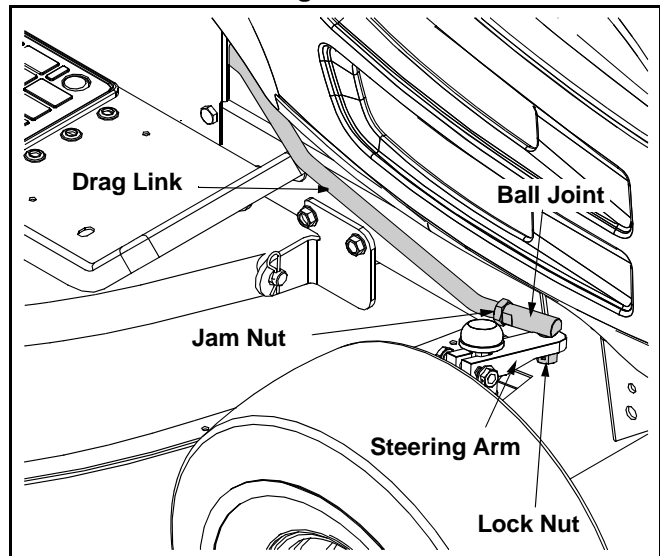

Figure 19
- Remove the lock nut which secures the ball joint to the steering arm. See Figure 19.
- Loosen the jam nut (See Figure 19) and thread the ball joint either inward or outward until it aligns with the hole in the steering arm.